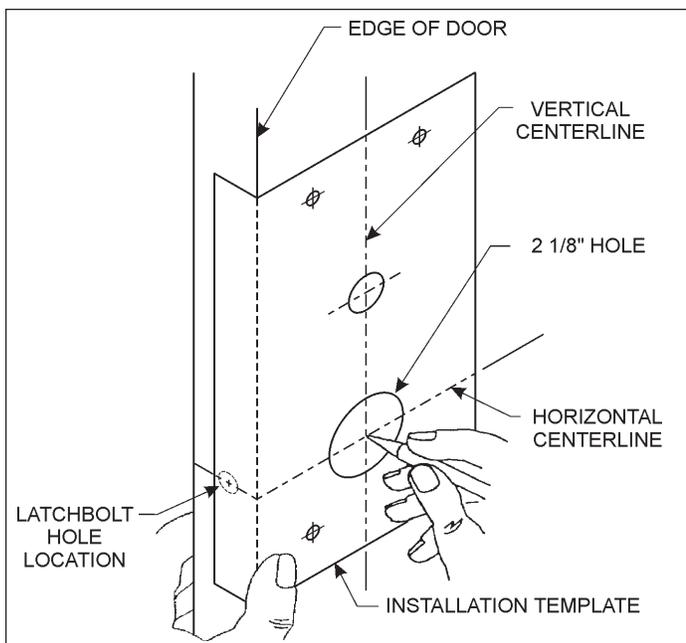

Figure 2
2. Fold the template on the dashed line as indicated on the template. **It is critical that the template be folded correctly on the proper dashed line to ensure proper hole alignment.** Place the fold on the edge of the door. Refer to Figure 2. The horizontal and vertical centerlines on the door should be clearly visible and aligned with the centerlines provided on the template.
4. Locate and mark the centerline for the 2 1/8" (54mm) diameter hole at the height marked for the centerline of the latchbolt. Refer to Figure 2.